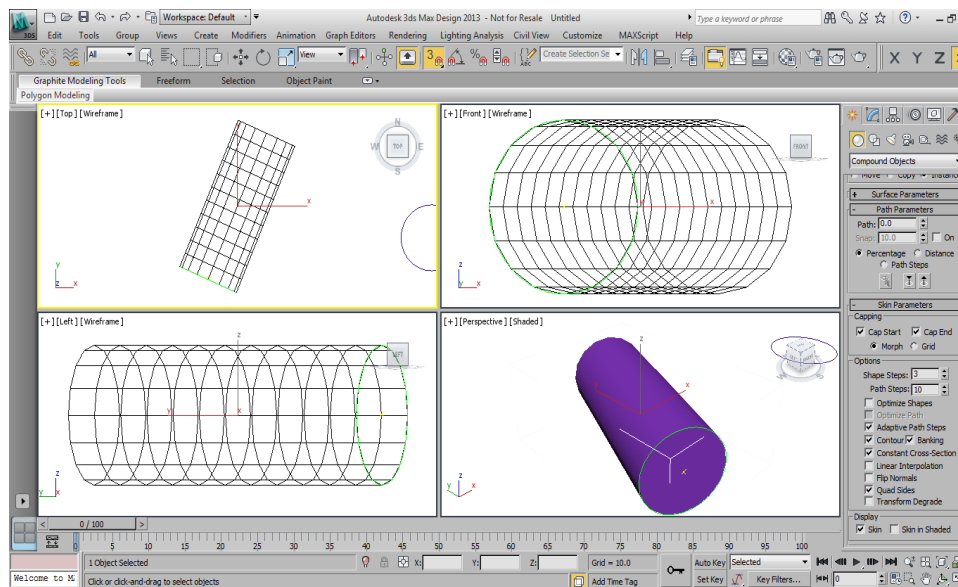

Figure 9-2 The circle lofted along the line
9. Pick the **Zoom Extents All Selected** button to zoom the loft object to its extents,  **Figure 9-2**.